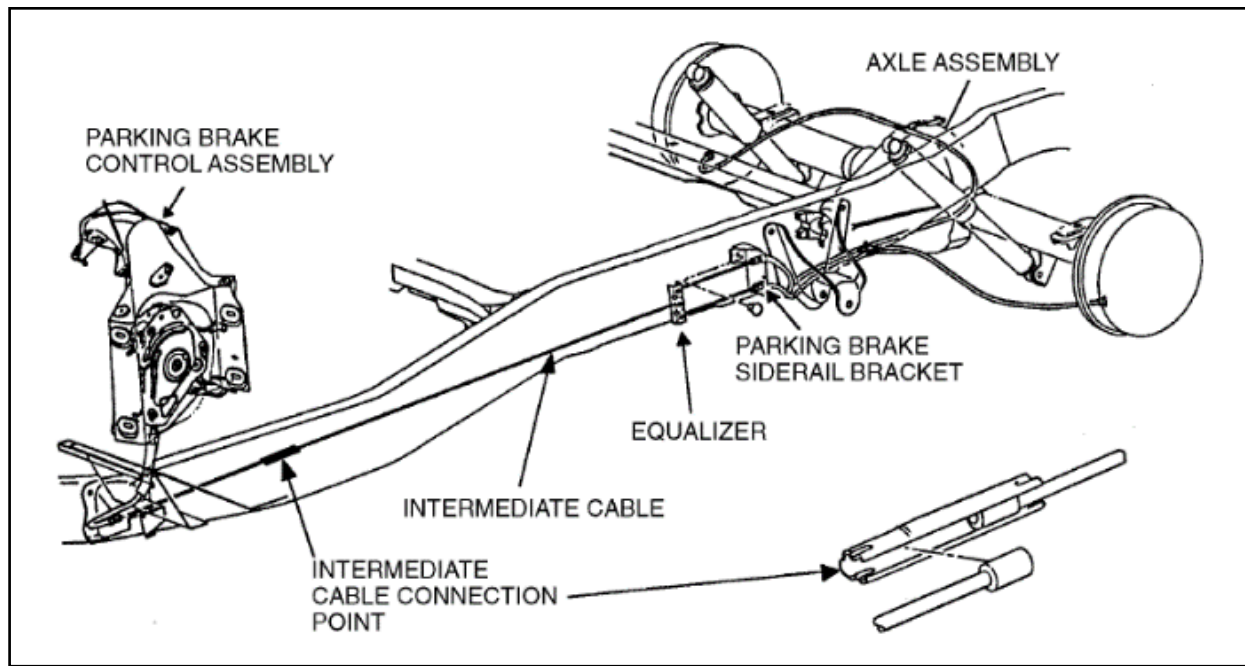

Figure 16 – Example of Parking Brake Cable System
- Measure and record the exact position of the parking brake cable side rail bracket relative to the forward edge of the rear spring front hanger bracket (see Figure 16). This dimension is critical to the reconnection procedure, as the bracket must be remounted in the original OEM position relative to the spring hanger bracket.